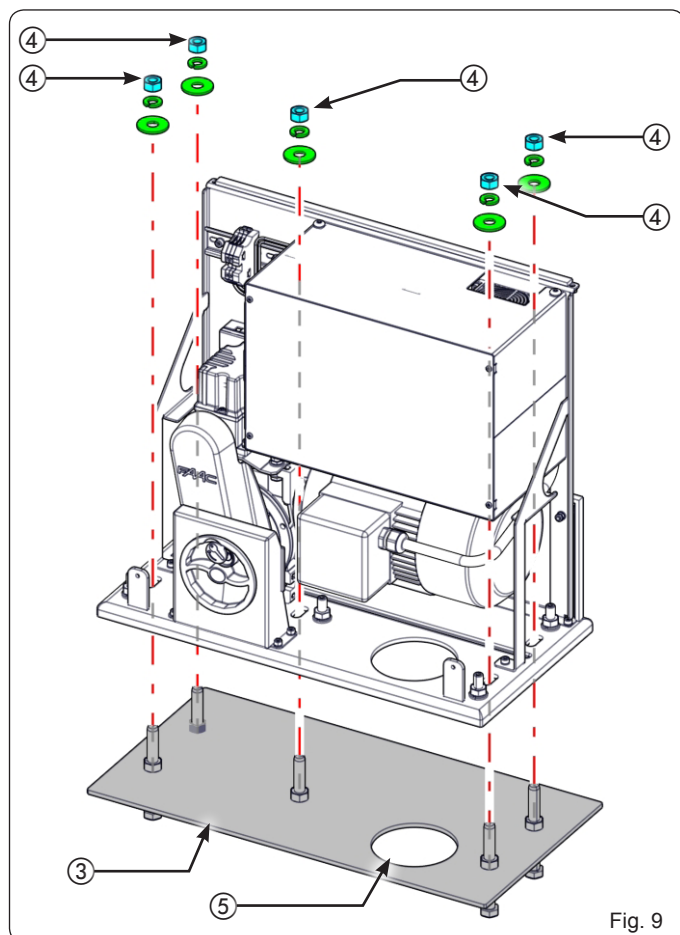
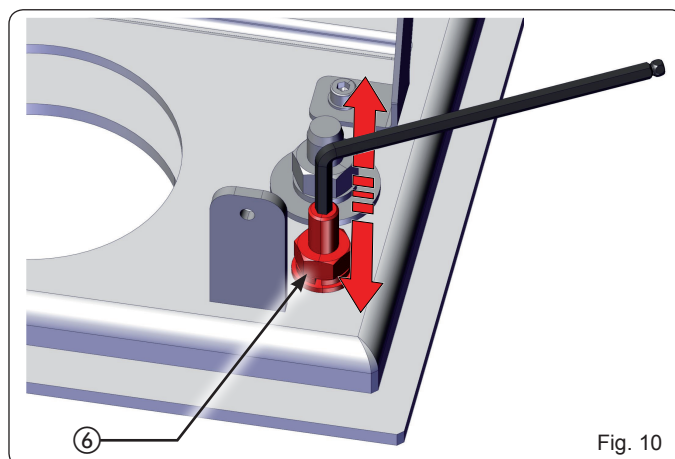
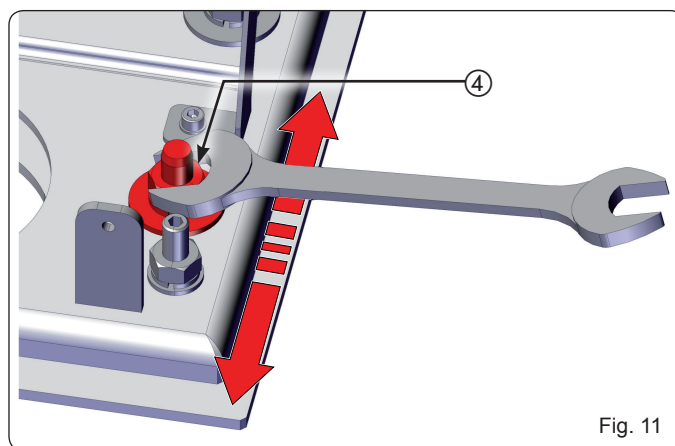
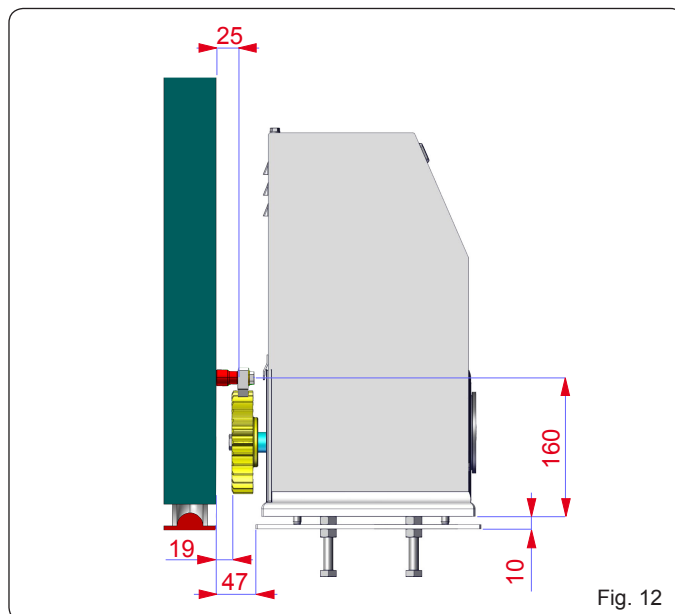

Fig. 9
Fig. 10
Fig. 11
Fig. 12
2. Position the operator on the foundation plate and secure it without tightening the nuts, Grover screws and washers supplied with the foundation plate (not provided) (Fig. 9 ref. ③ ④). When doing this, run the cables through the provided opening (Fig. 9 ref. ⑤).
3. Use the adjustment screws to set the height of the gearmotor (Fig. 10 ref. ⑥), referring to the measurements in Fig. 12.
5. Move the gearmotor horizontally to adjust the distance from the rack (Fig. 11), referring to the measurements in Fig. 12.
6. Once the adjustment is completed, tighten the nuts temporarily (Fig. 9 ref. ④ and Fig. 10 ref. ⑥):
-  Tighten the fixing nuts (Fig. 9 ref. ④) with 80 Nm of torque.
Tighten the fixing nuts (Fig. 10 ref. ⑥) with 40 Nm of torque.